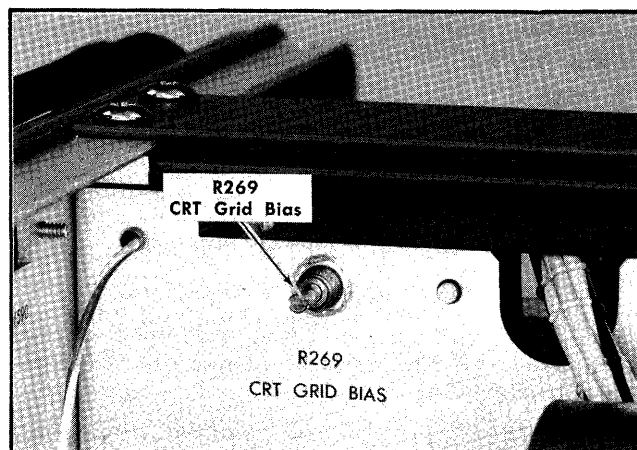

Fig. 5-4. Location of R269, CRT Grid Bias.
- d. Set the time-base Normal-Single Sweep switch to Single Sweep and rotate R269, CRT Grid Bias (Fig. 5-4), counterclockwise.